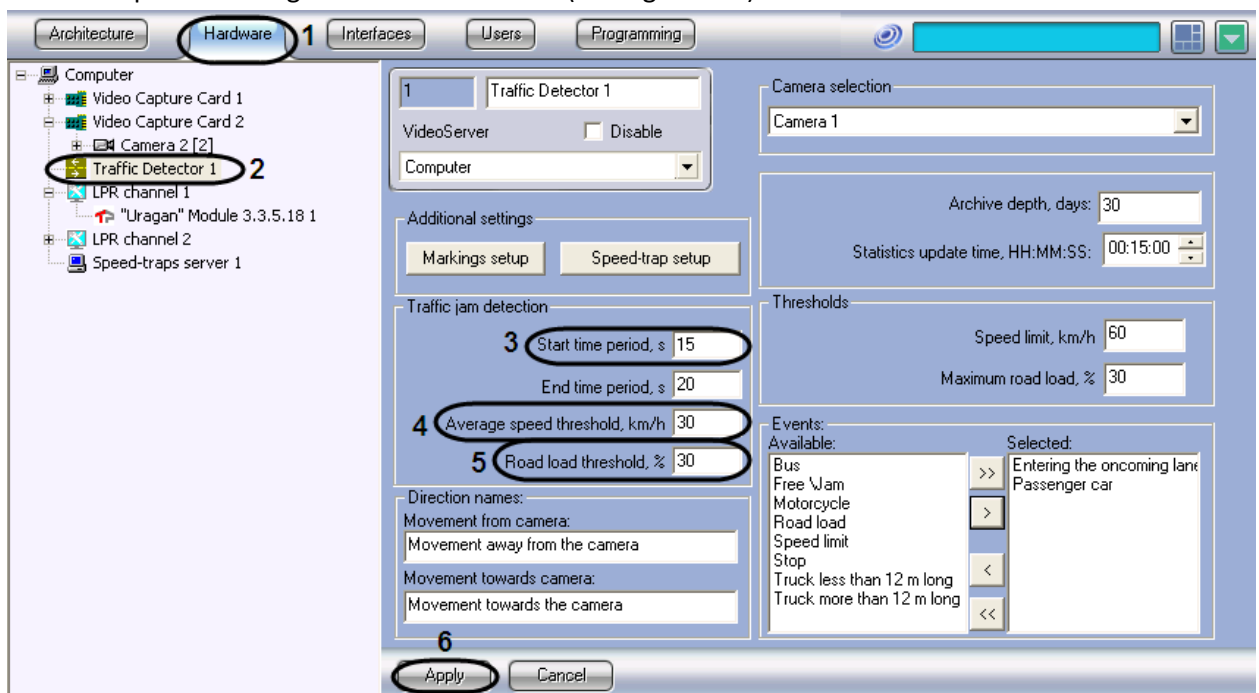

Fig. 7.4-16 Setting up the jam detection parameters
2. In the object tree on the left side of the Hardware tab, select the Traffic Detector object representing the Traffic Detector module to be set up. The settings panel of the selected object will open on the right side of the window (see Fig. 7.4-16).